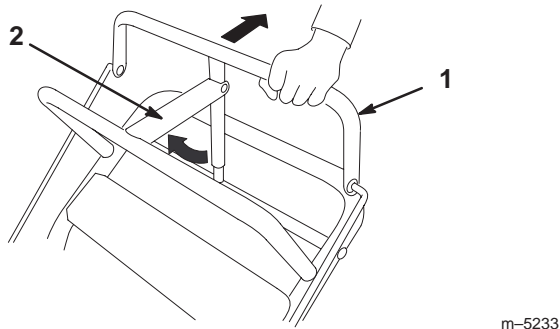

Figure 37
2. Set the parking brake (Fig. 37).